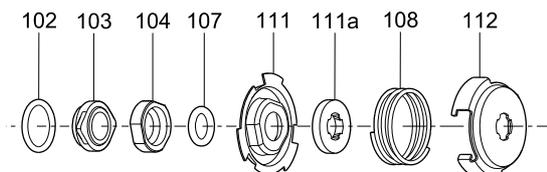

Fig. 22 Exploded view of shaft seal
- Continue the dismantling until shaft seal (pos. 105).
- Remove shaft seal (pos. 105). See fig. 22.